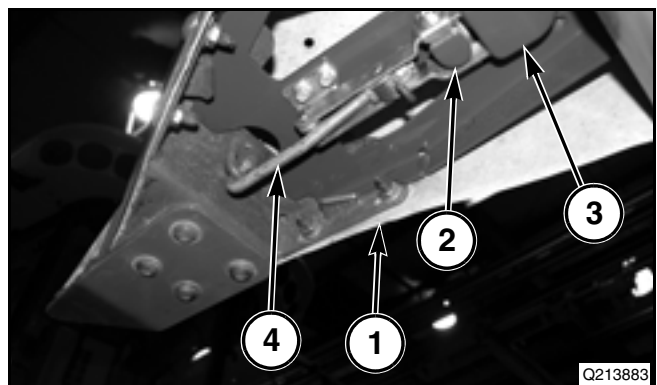

FIG. 45
FIG. 45: To release the divider shield (1), press the release tab (2) and pull down on the paddle (3) to release the latch (4). Pull the divider shield forward from the header.